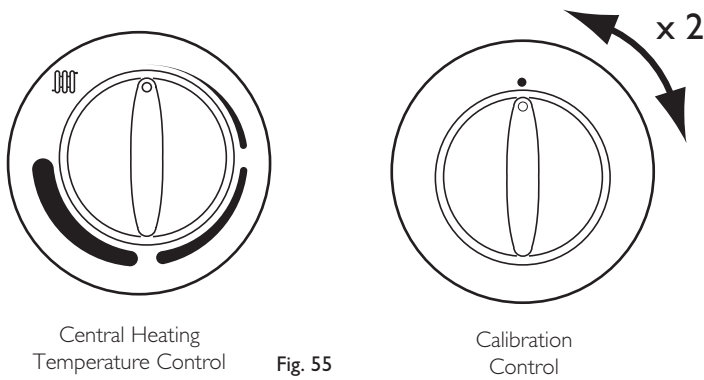

Fig. 55
3. Ensure that the integral timer and any external controls are calling for heat, and the selector switch is in the central heating and hot water position (R). The current boiler temperature is shown on the display.
5. Turn both temperature control knobs fully anticlockwise, then quickly turn the Calibration Control knob 1/4 clockwise twice and back fully anticlockwise (Fig. 55).